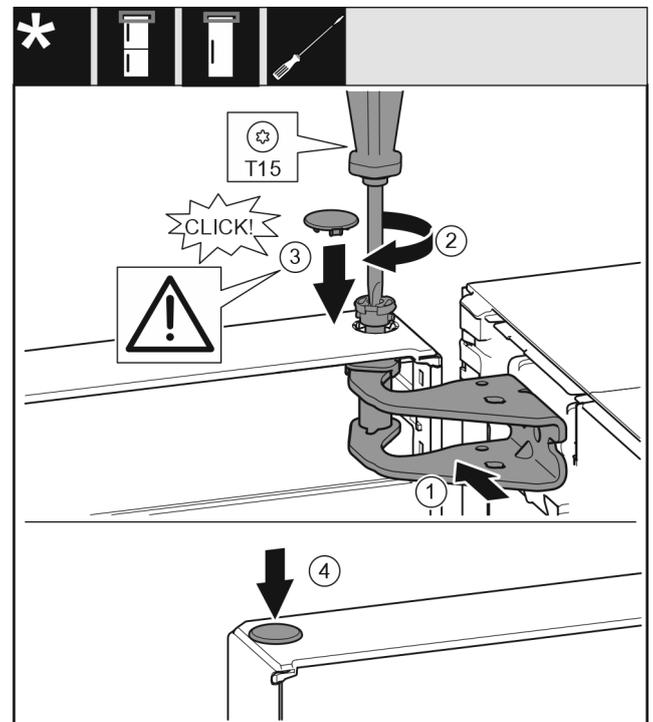

Fig. 19
- ▶ Align the top of the door with opening in the bearing bracket. Fig. 19 (1)
- ▶ Insert the bolt and tighten with a T15 screwdriver. Fig. 19 (2)
- ▶ Fit the protective cover to protect the door: Insert the protective cover and check that it is flush to the door. If not, insert the bolt fully. *Fig. 19 (3)*
- ▶ Insert the plugs. *Fig. 19 (4)*